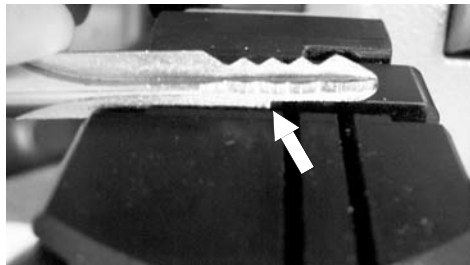
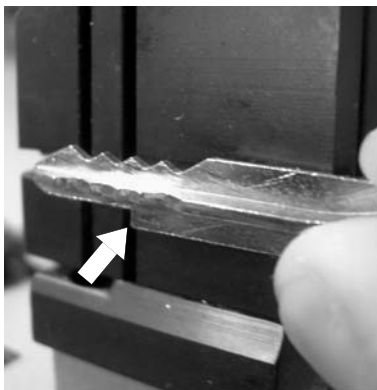

Fig. 23 - Key stop towards the INNER part of the clamp
Fig. 25 - Key stop DOWN
- insert the grooved bar into the notch on the clamp according to the key stop (as shown in fig.23, fig.24 and fig.25).
- 3) Tighten the knob (F) to secure the key.